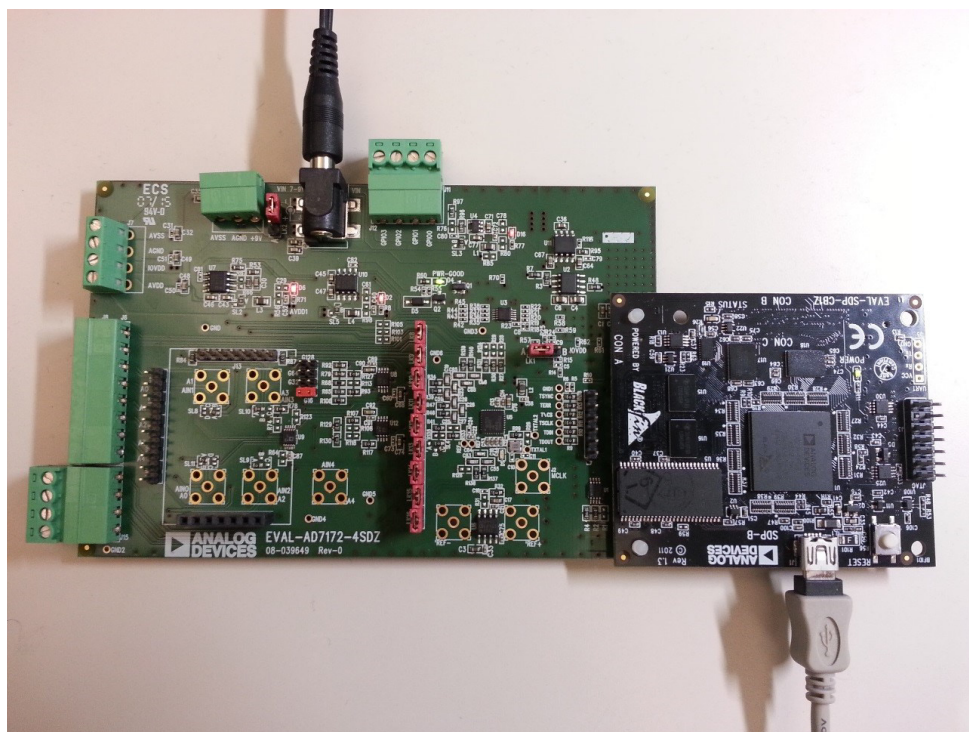

Figure 2. Hardware Configuration, Setting Up the **EVAL-AD7172-4SDZ**
2. Connect the **SDP-B** board to the **EVAL-AD7172-4SDZ** board, as shown in Figure 2.
4. Connect the external 9 V power supply to the J5 connector of the evaluation board, as shown in Figure 2. Set LK2 to Position B.